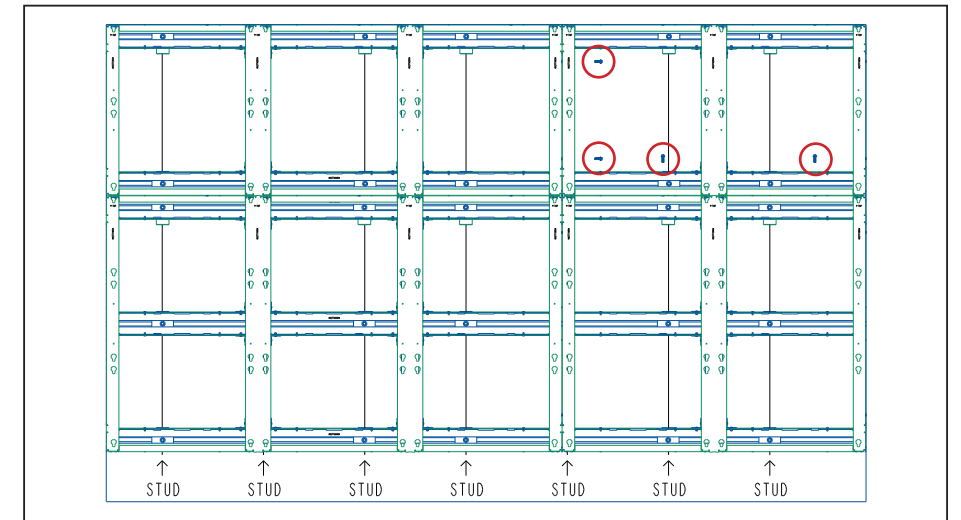

Figure 12: Install Remaining Frames
- Install the remaining frames while leaving the frames slightly loose from the wall. Refer to **Figure 12**.